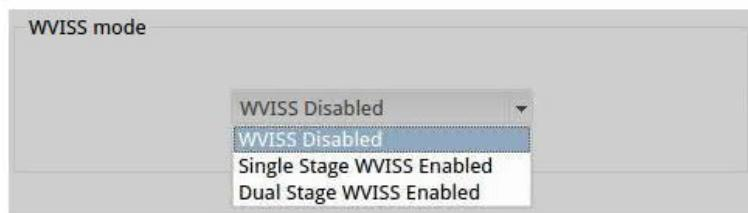

Figure 98: WVISS Mode Drop Down Menu
4. In the *WVISS mode pane*, use the drop-down selection box to enable control of the WVISS. (Figure 98)